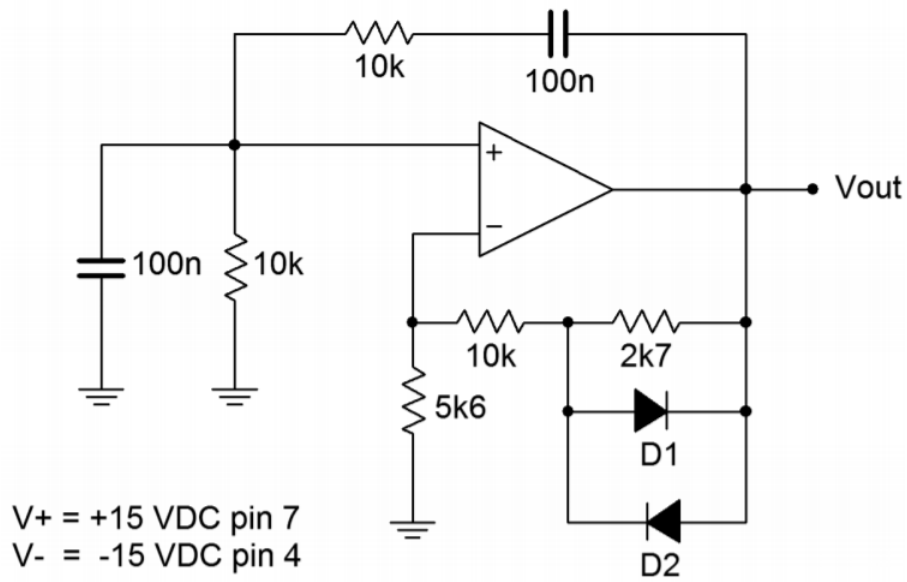

Figure 17.5.1
1. Determine the theoretical output frequency for the circuit of Figure 17.5.1. Also, estimate the output amplitude. Record these in Table 17.7.1.
2. Construct the circuit of Figure 17.5.1 using the medium speed op amp.